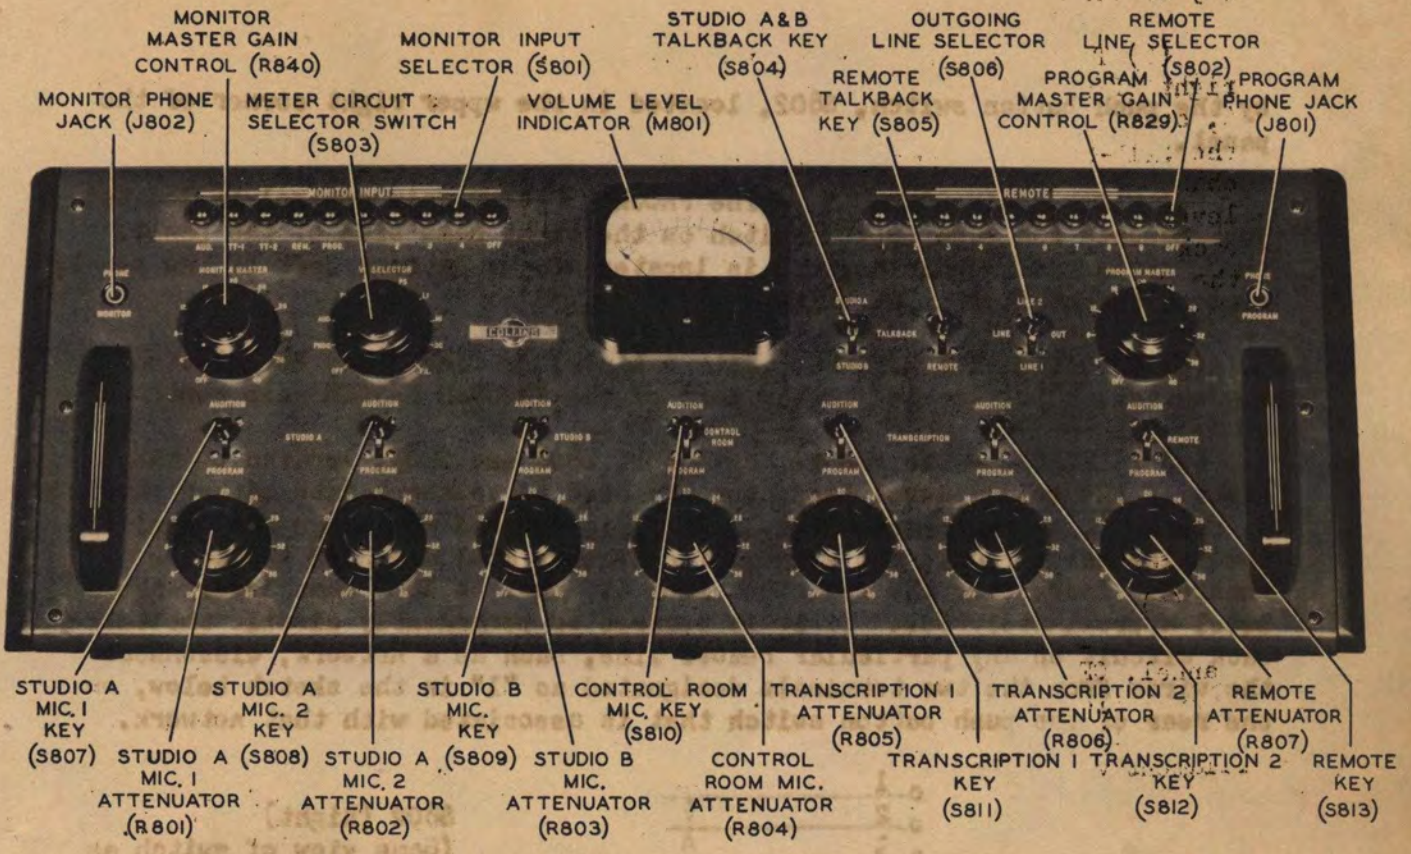

Figure 3-11 Control Locations
b. CONTROL FUNCTIONS. - The panel of the type 212B Console is arranged for simple and convenient operation. In general, the control functions are similar to that of other speech input systems. All attenuators operate in the conventional manner with minimum attenuations (maximum output) being obtained in the extreme clockwise position, marked (40). Attenuation can be varied in 2 db steps to a maximum of 40 db. Complete cutoff is obtained in the position marked OFF. The following controls are located on the console panel. Refer to figure 3-11.
(1) MICROPHONE INPUT CONTROLS. - The four microphone line inputs operate into individual preamplifiers. Each microphone input channel has a constant impedance attenuator and key switch following the preamplifier. The key switch will connect the microphone circuit into either the PROGRAM or AUDITION CHANNEL. In the center position the input is entirely disconnected.